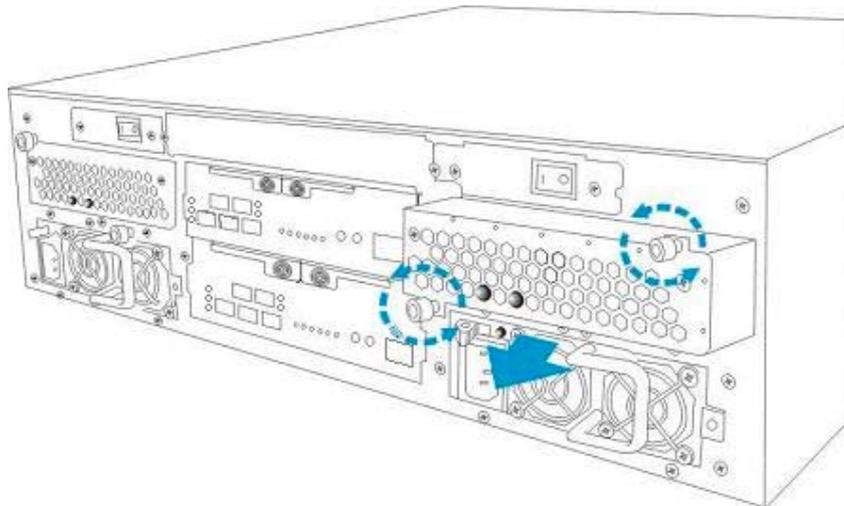

Figure 5-8: Removing the Cooling Module Retention Screws
- Step 1.** Two (2) retention screws secure the cooling module to the EonStor subsystem. The first retention screw is at the top on the right, and the second screw is at the bottom on the left. **Remove these retention screws.**
- Step 2.** Once **BOTH** retention screws have been removed, gently pull the cooling module out of the EonStor subsystem enclosure. (See *Figure 5-8*)